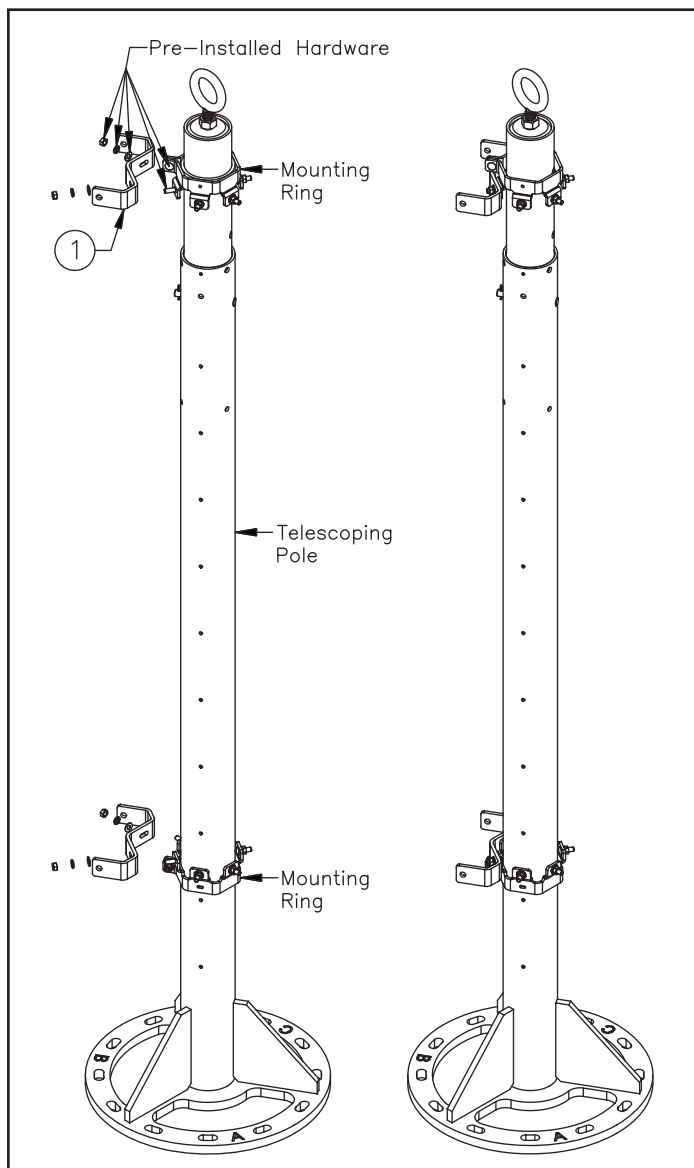

Figure 10. Attaching Pole Brackets to Universal Tree Stand.
4. Remove and save the nuts and washers from the top and bottom mounting ring tabs for each sector that will be used to attach an antenna (Figure 10).
5. Slide the pole brackets (Item 1) onto the carriage bolts that extend outward from the mounting ring tabs. Using the hardware saved from the previous step, secure the brackets to the mounting rings (Figure 10).